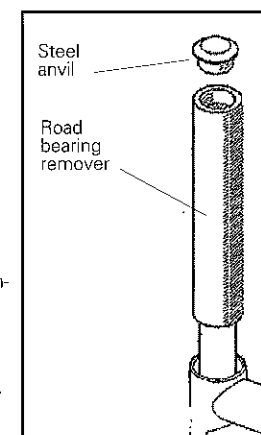

Fig. 41
6. With the fork resting in the head tube, slide the thick-walled end of the **road bearing remover** over the steerer (Fig. 41).